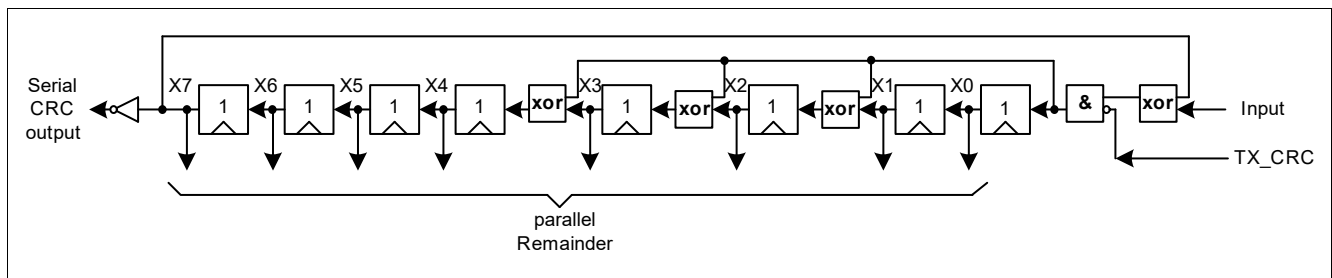

Figure 4-5 Fast CRC polynomial division circuit
- Generator-Polynomial:  $X^8+X^4+X^3+X^2+1$ , but for the CRC generation the fast-CRC generation circuit is used (see Figure 4-5).